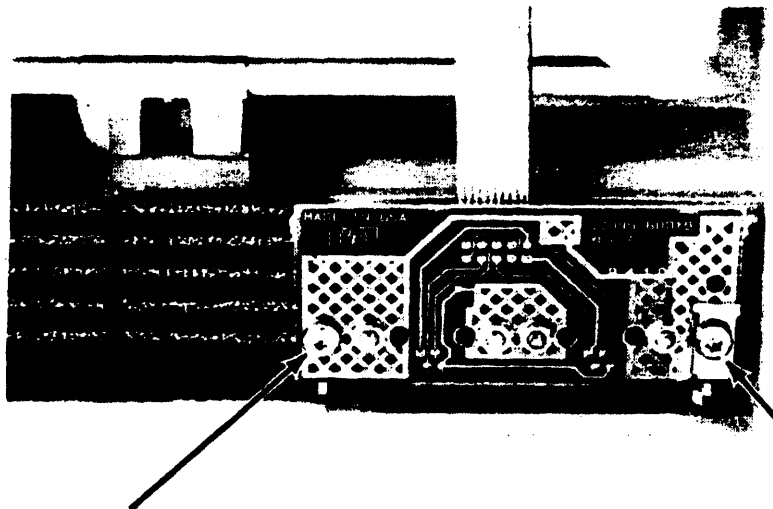

Figure 6-33. Keyboard Connector Assembly
2. Remove the two screws shown in figure 6-33 and lift out the PCA.